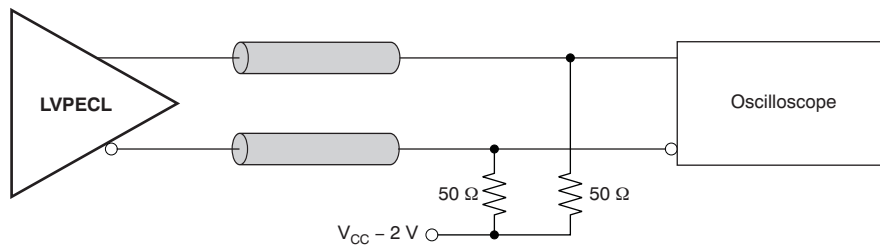

Figure 10. LVPECL Output DC Configuration During Device Test
(1) Figure 10 and Figure 11 show dc and ac test setup.
(2) Internally generated bias voltage ( $V_{AC\_REF}$ ) is for  $3.3\text{ V}$  operation only. It is recommended to apply externally generated bias voltage for  $V_{CC} < 3.0\text{ V}$ .
(2) Parameter is specified by characterization. Not tested in production.